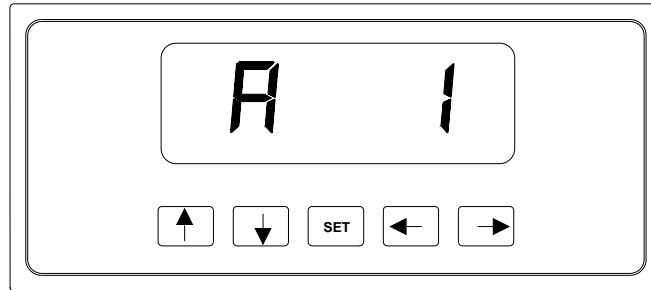
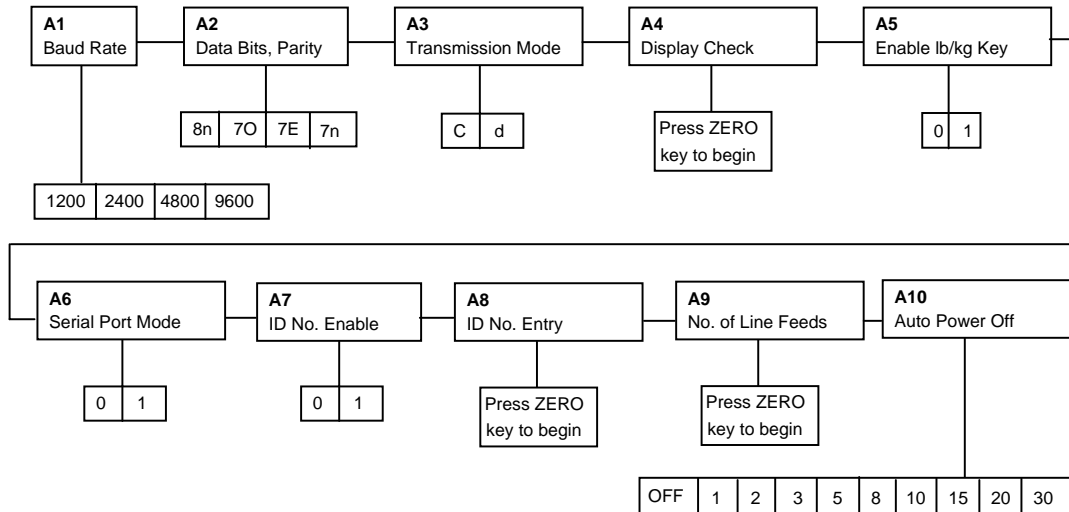

Figure 3-3: User Menu Key Assignments
Figure 3-4: User Menu Chart
2. Use the right or left directional keys shown in Figure 3-3 to move right or left in the Setup (“F”) menu until the indicator shows “A 1”.
Use the directional keys shown in Figure 3-3 to move around in the User Menu Chart shown in Figure 3-4 on the following page.